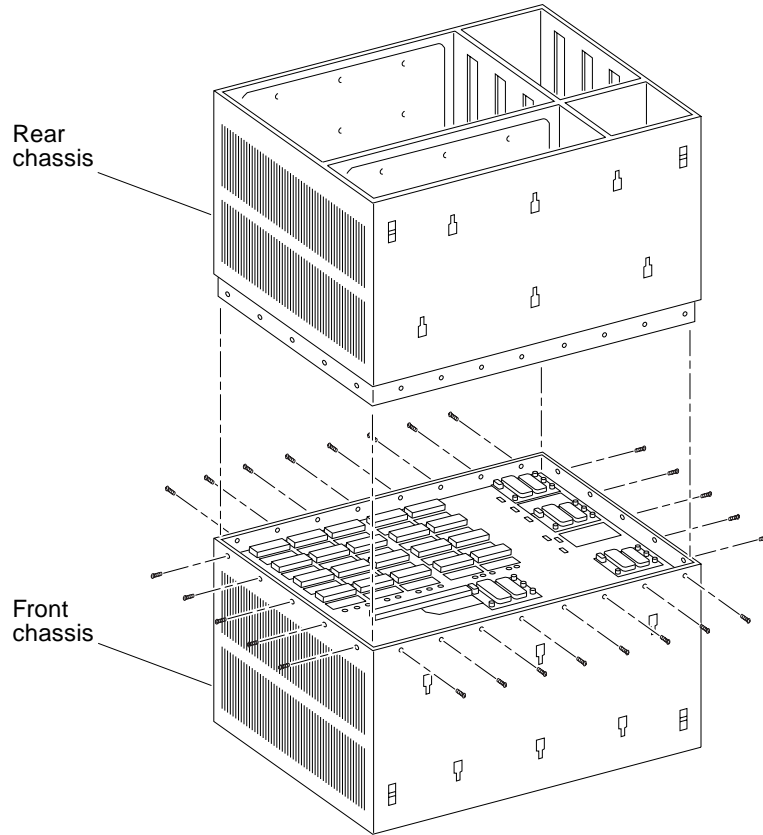

FIGURE 11 System Chassis—Front and Rear
2. Lift and remove the rear chassis section and set it aside (FIGURE 11).
2. Place the rear chassis on the front chassis, as shown in FIGURE 11, and replace the 26 screws around the center of the system chassis.